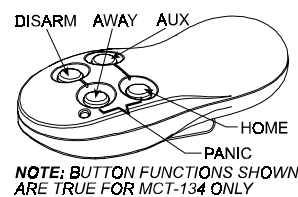

Figure 23. MCT-134 / 104
**C. MCT-134 / 104\*** (Fig. 23): 4-button hand-held units. MCT-134 (CodeSecure) can replace the MCT-234 keyfob. MCT-104 (PowerCode) can perform emergency and non-alarm functions. Both units look alike.